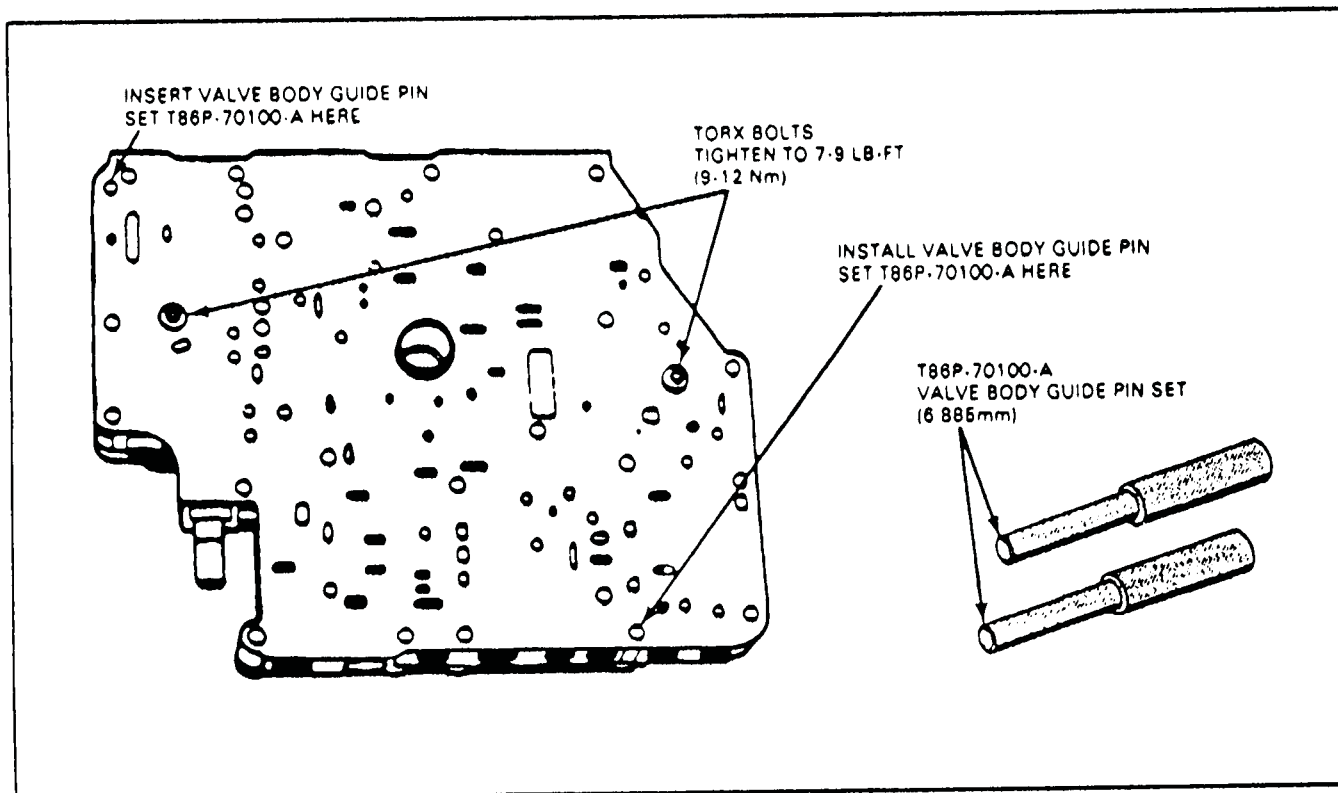

Figure 45
6. Insert two valve body guide pins T86P-70100-A (.271" Diameter, as shown in Figure 45.